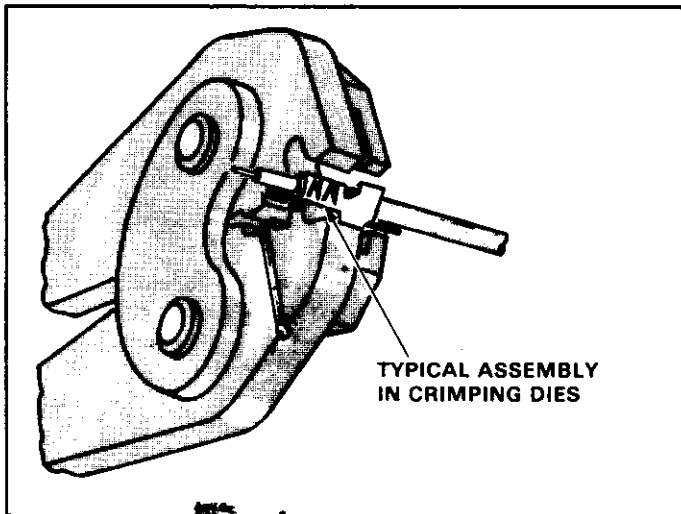

Fig. 3
3. Crimp terminals according to instructions packaged with crimping tool. See Figure 3.